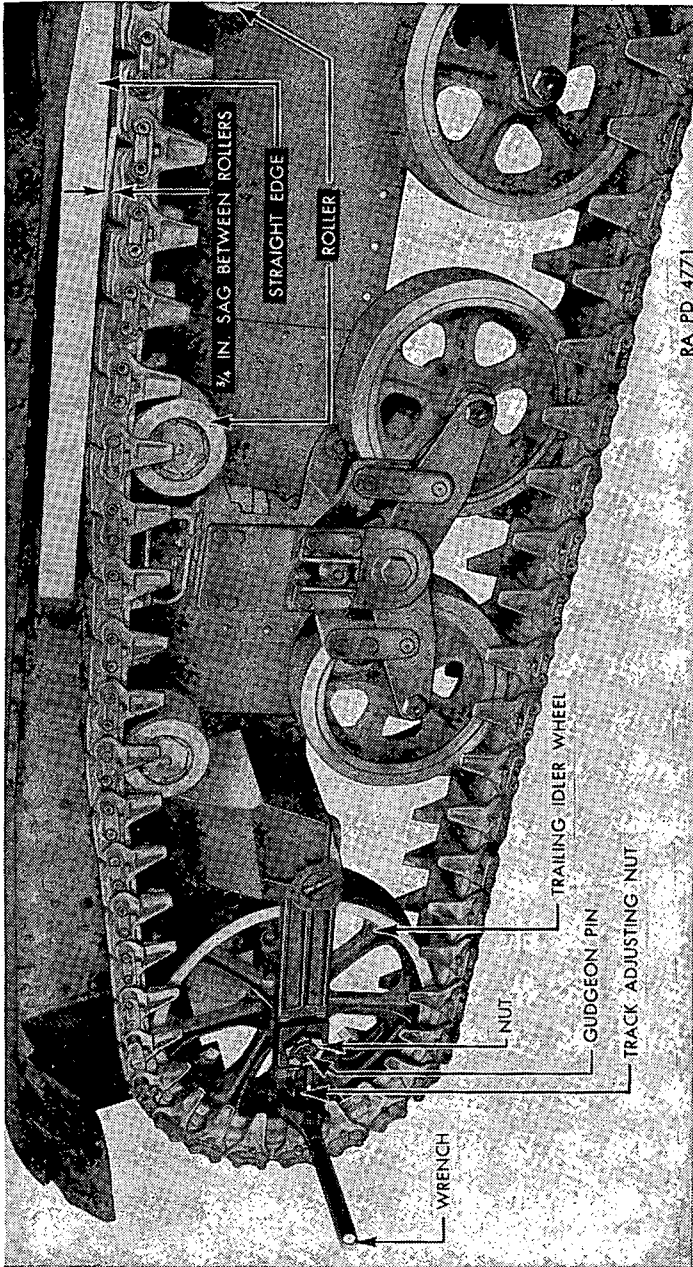

FIGURE 80.—Track adjustment.
113. Tracks.—*a. Description (fig. 80).*—The tracks are of the rubber block type, each shoe consisting of a rubber block vulcanized around a metal link. Rubber-bonded pins pass through the shoe and are connected into an endless chain by drop-forged steel end connectors. The inside surfaces of the connectors serve to guide the track while the outer ends act as driving lugs and are engaged by the teeth of the sprocket.
c. Adjustment of track (fig. 80).